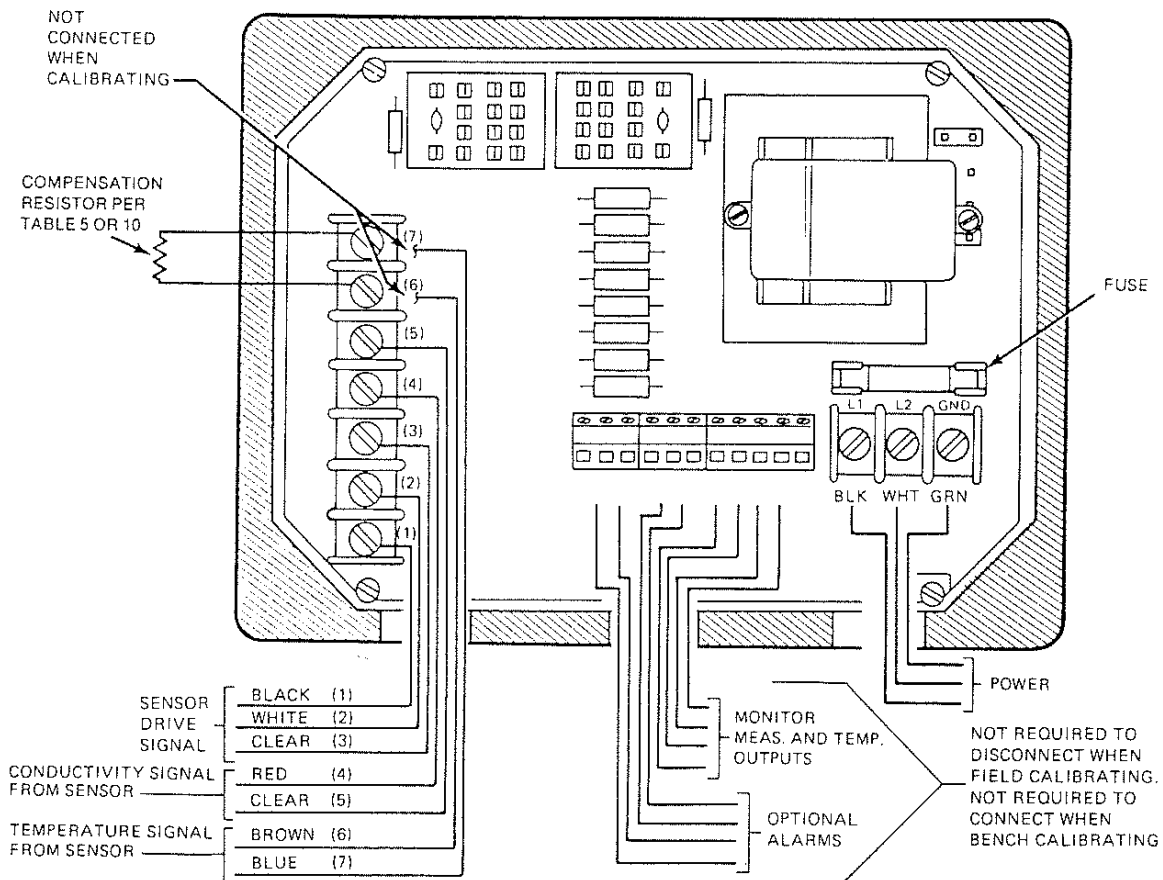

Figure 14. Monitor Connections for Calibration
8. Disconnect sensor leads 6 and 7 from Monitor terminal strip. Refer to Figure 14.
9. To simulate reference temperature as identified in Compensation Code digits XX (Table 4), connect a fixed resistor between terminals 6 and 7 as shown in Figure 14. Refer to Table 5 or Table 10 for resistance value.
13. Leave fixed resistor across terminals 6 and 7. Leave sensor leads 1 through 5 connected per Figure 14. Sensor is clean, dry, and on the bench, exposed only to air. To set the system zero point, press <Calibrate LOW>. Use increment (Δ) or decrement (V) key until display reads 0. Press <ENTER>.